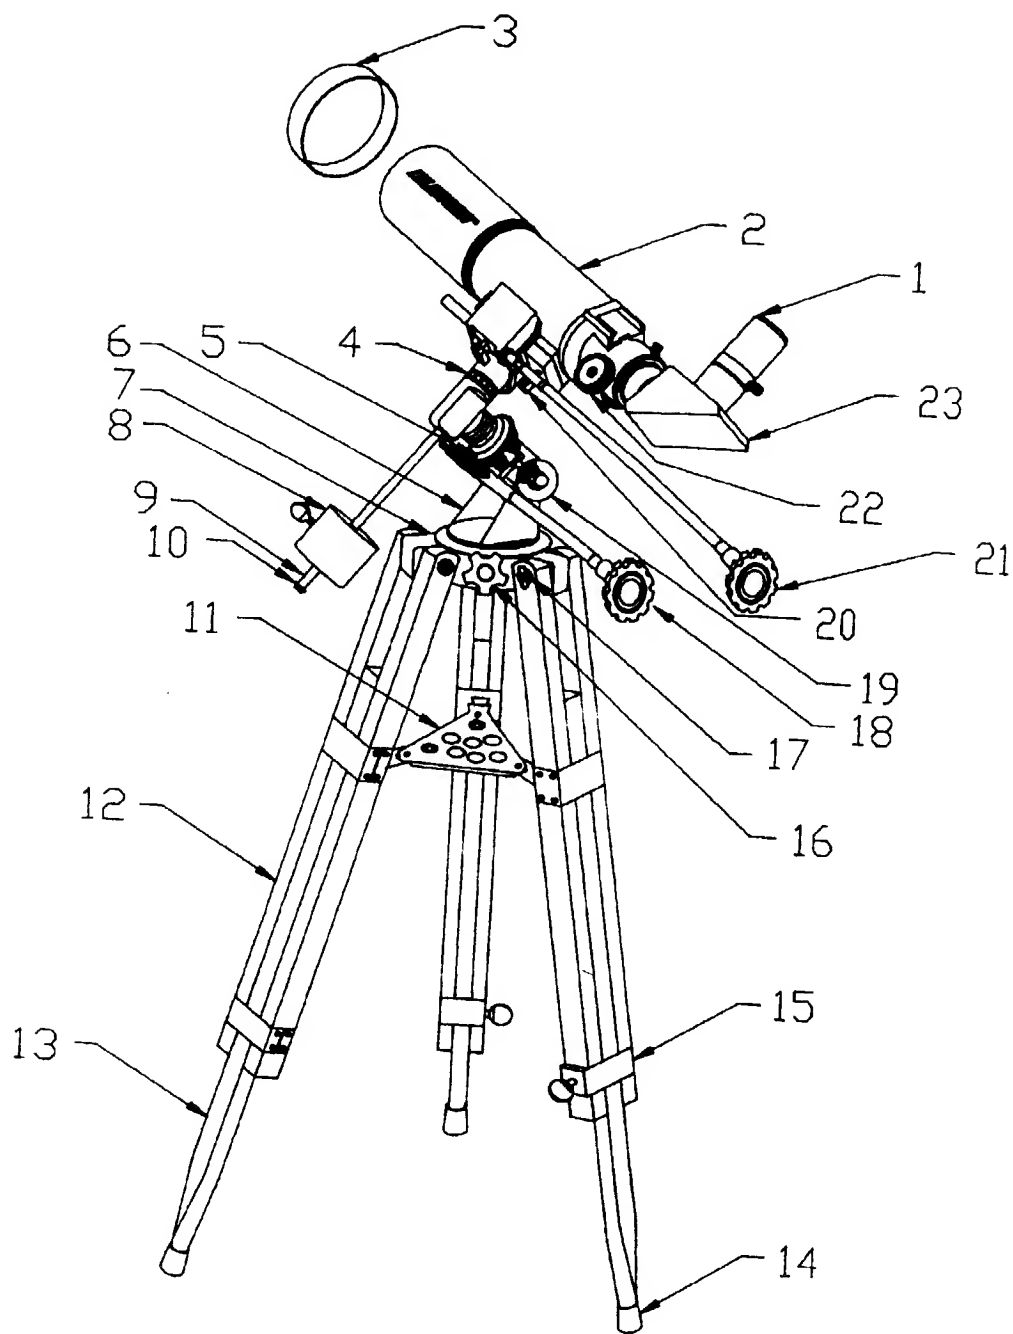

Figure 1
Please refer to figures 1 and 2 (and the identifying parts list) as you assemble the telescope.
B. Before proceeding further, locate knobs #19 and #16 and tighten them finger tight after orienting the mount as illustrated in figure 1.
4. Slide the counterweight shaft (#9) through the counterweight (#8). Use the counterweight lock (#10) to lock the counterweight in place. By holding the counterweight in one hand, thread the counterweight shaft clockwise into the equatorial mount as shown in figure 1.